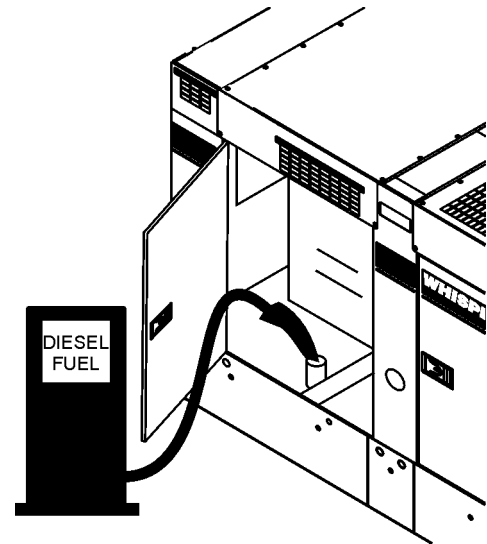

Figure 34. Fueling the Generator
2. Open cabinet doors on the generator. Locate and remove the fuel tank cap and fill tank (Figure 34).